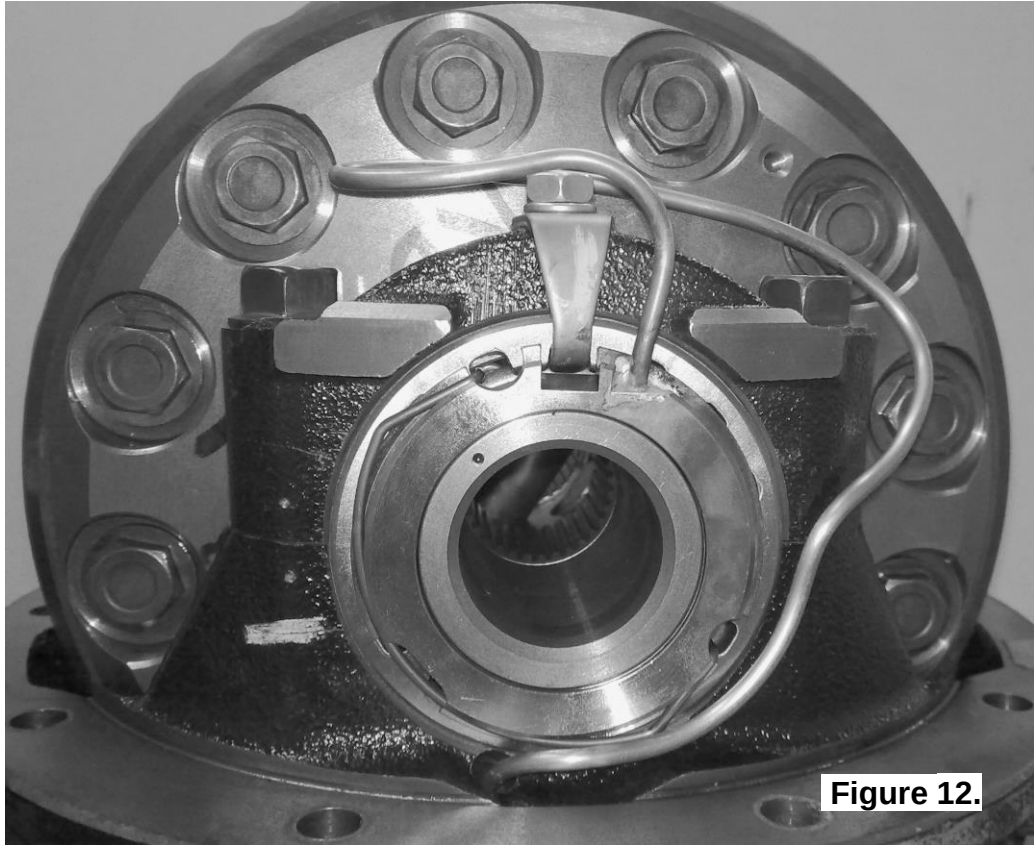

Figure 12.
- ☐ Without using sharp, jagged tools such as pliers (your hands are the best tool for this job), bend the seal housing tube on the outside of the housing to approximate the finished profile (Figures 12., 13. & 14.), ensuring that the square cutout in the seal housing lines up with the locking tab position at the center of the bearing cap.